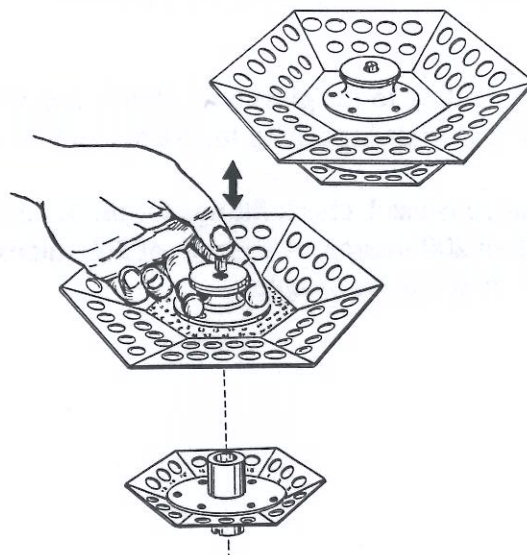

Figure 6
- (1) Inspect the concentrator and clean any dust from the chamber or other components.
- (2) Unpack and clean the rotor(s). If the dual rotors are purchased, install the smaller rotor and rotate until the slots on the bottom of the rotor engage the pin in the shaft.
- (3) Place the top rotor over the shaft. Gently push down on the rotor button once to engage and hold the rotor (Figure 6).